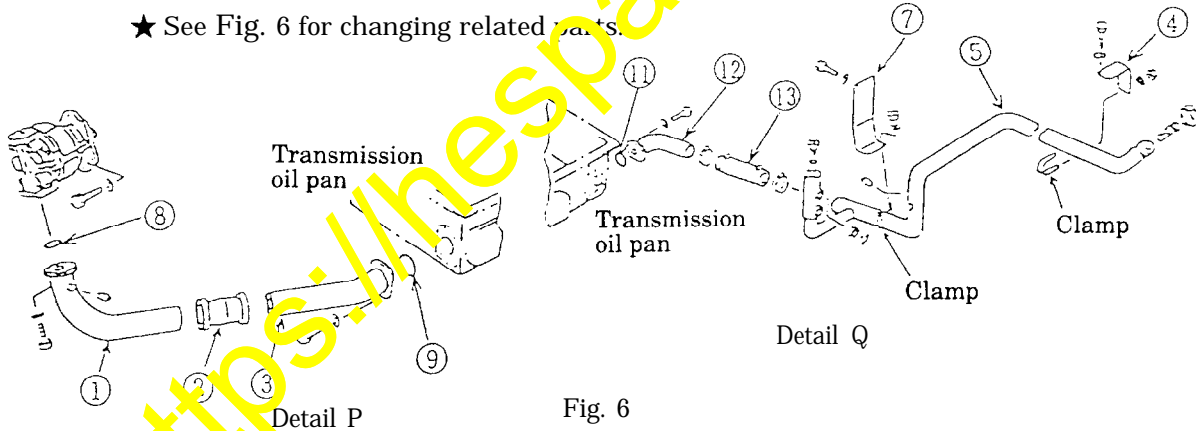

Fig. 6
★ See Fig. 6 for changing related parts.
- (7) Install intake line tube. (See Fig. 6)
a. Install tube ③ with O-ring ⑨ to oil pan ⑥.
- (8) Install oil filler port tube. (See Fig. 6)